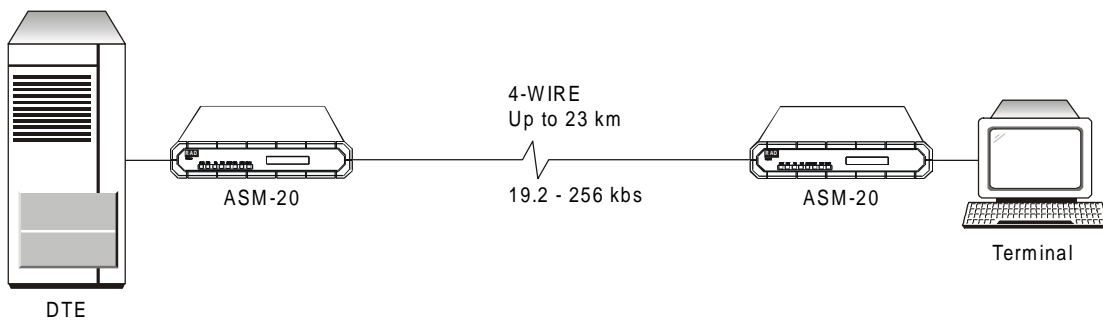

Figure 1-1 Point-to-point Application
- Point-to-point applications (see *Figure 1-1*)